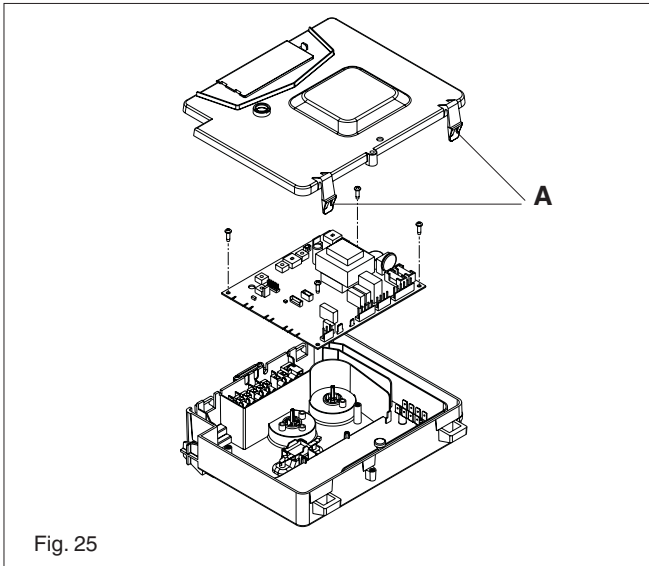

Fig. 25
6.8 PRINTED CIRCUIT BOARD (fig. 25)